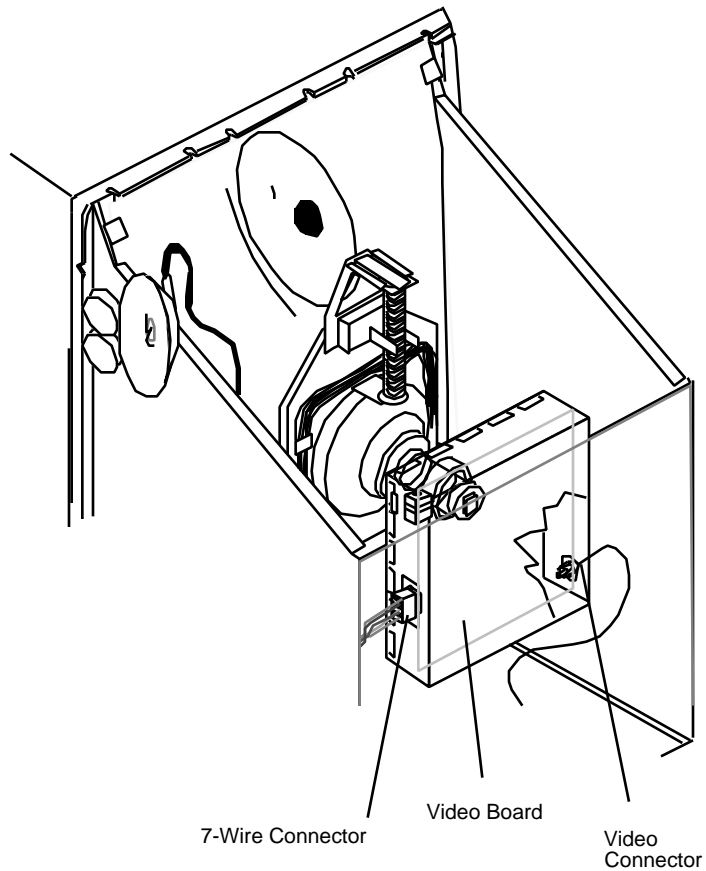

FIGURE 22
7. Disconnect the following connectors from the video board (Figure 22) :